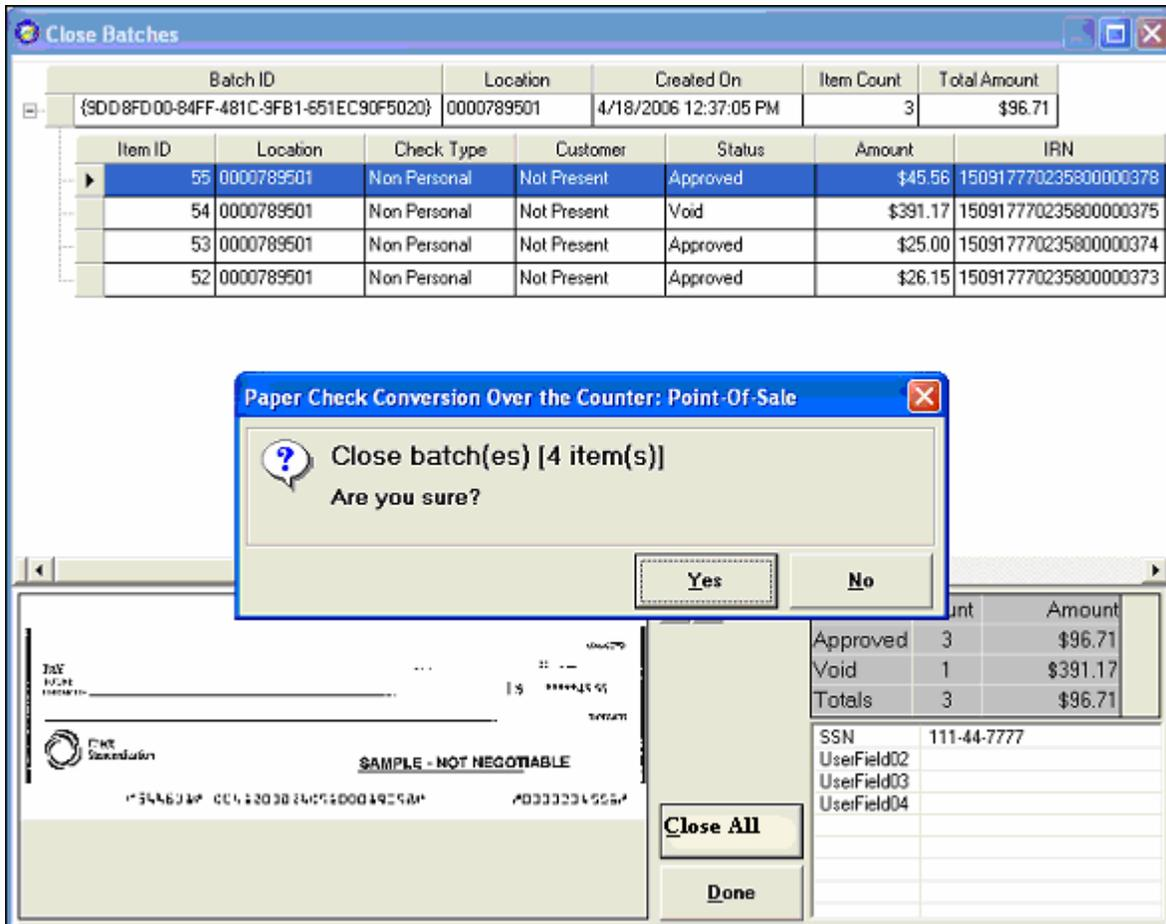

Figure 6.47
3. Click the **'Close All'** button at the bottom of the window to close the batch. The following prompt will appear: (Figure 6.47)